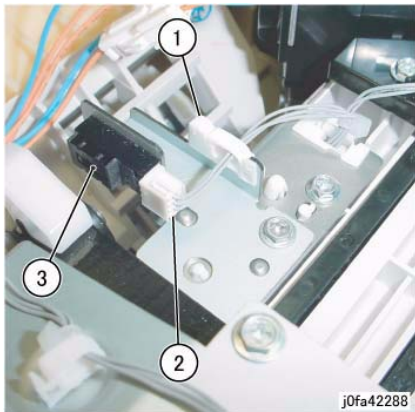

Figure 3 Removing the Eject Home Sensor (j0fa42288)
6. Remove the Eject Home Sensor. (Figure 3)